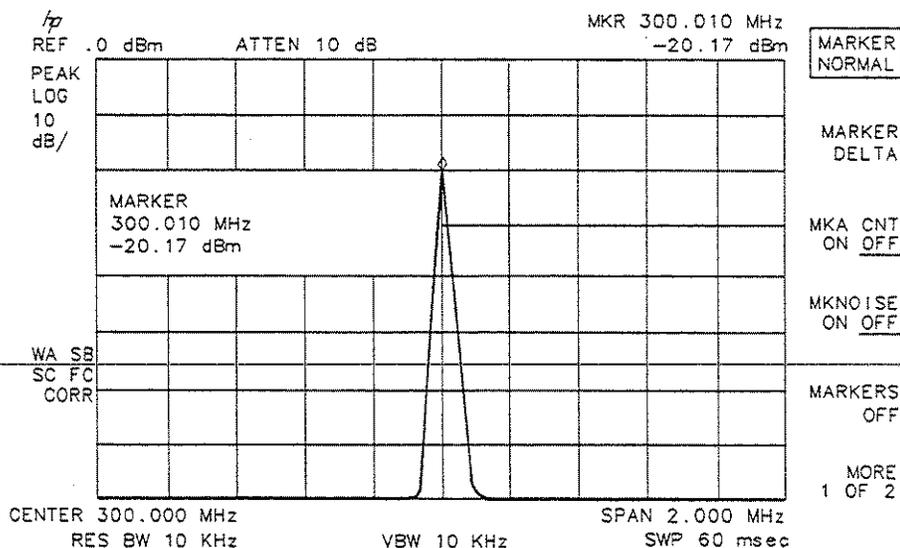

Figure 1-6. Reading the Amplitude and Frequency
5. Determine the amplitude and frequency of the signal. You can either press **PEAK SEARCH** or press **MKR** and move the marker to the signal peak. Read the amplitude and frequency. The display screen should look like the one in Figure 1-6. Frequency is displayed horizontally, and amplitude (power) is displayed vertically.